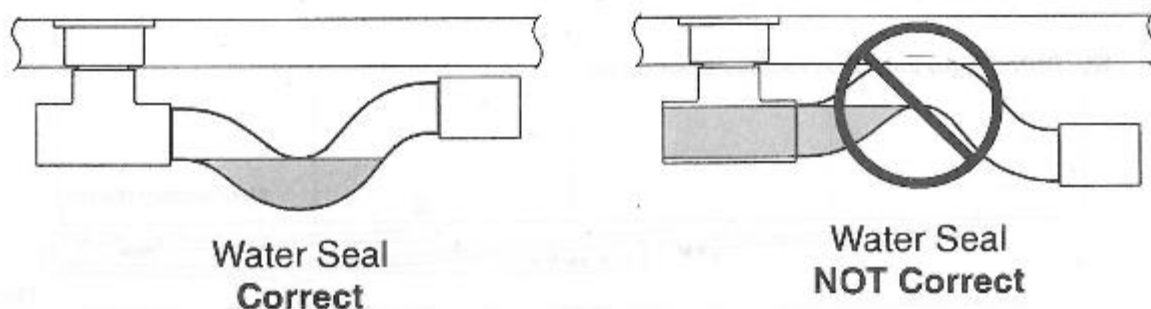

Figure 15 Drain trap orientation
- Ensure that the drain trap is installed the right way up (refer to figure 15: drain trap orientation in the section installing the waste drain)